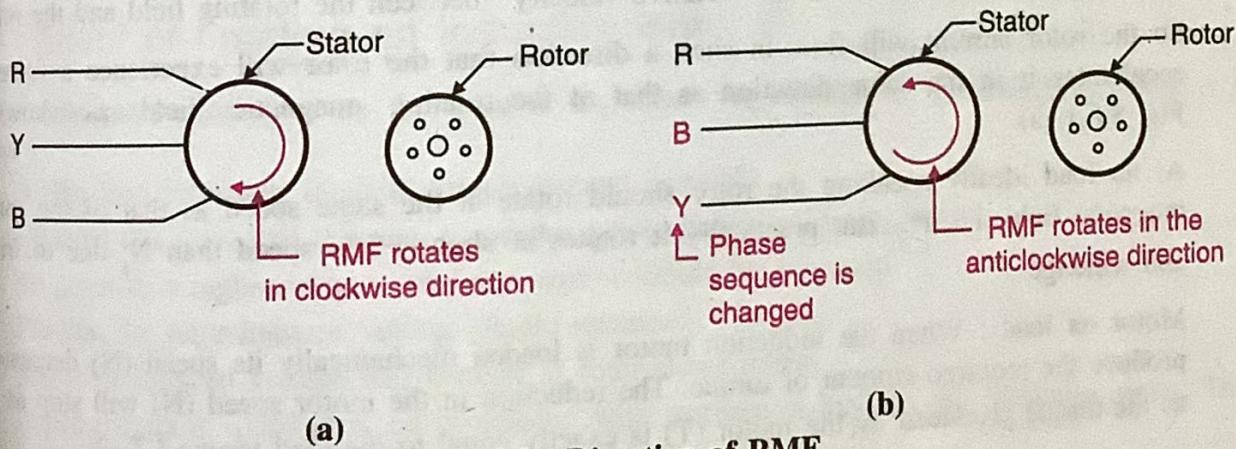

Fig. 8.5.4 : Direction of RMF
- As we have proved, the RMF rotates in the clockwise direction if the phase sequence is R, Y, B i.e. the normal sequence as shown in Fig. 8.5.4(a).
- But if we interchange any two phases of the ac supply to get a new phase sequence say R, B, Y then the direction of RMF will reverse. It will start rotating in the anticlockwise direction as shown in Fig. 8.5.4(b).